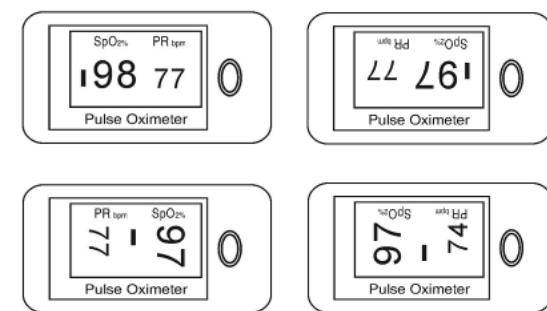

FIGURE 4
5. The View O2 features a multi-directional readout screen, allowing the user to adjust the direction of the data readout for ease of use. To change the readout configuration, simply depress the on button until desired readout direction is reached. See Figure 4 for options.